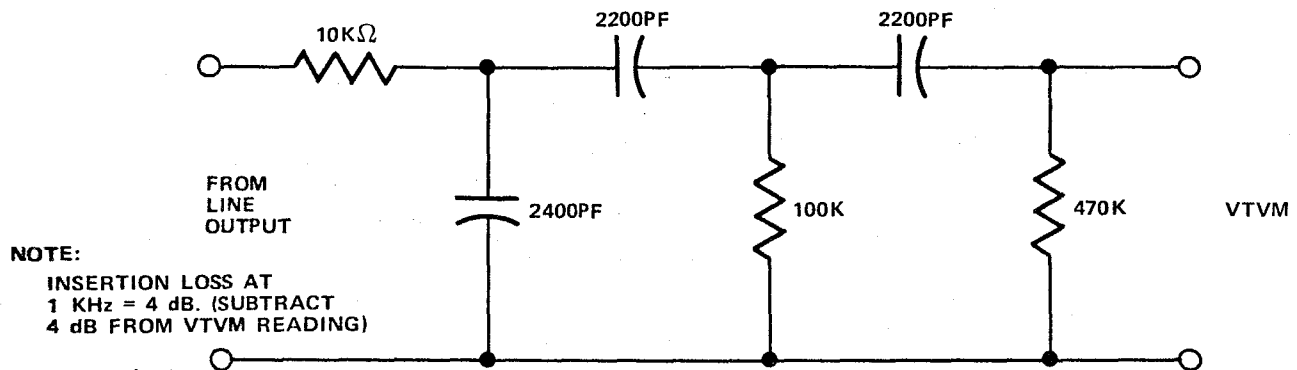

Figure 19. ASA "A" Weighted Filter
- Place the machine in the record mode once again and read the residual noise of the vtvM for each channel. For 8 and 16-track systems, the meter should read less than -53 dBm, and for 24-track systems, less than -48 dBm. If the ASA "A" weighted filter (Figure 19) is used, after correction for the insertion loss of the filter, the meter should read -55 dBm or greater for 8 and 16-track systems or -51 dBm or greater for 24-track systems.